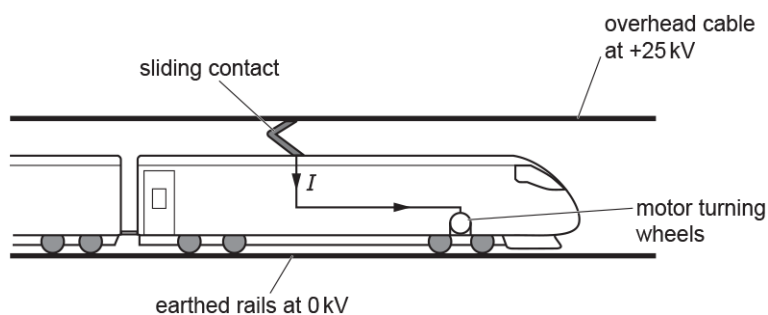

Fig. 1
51. Fig. 1 shows a high-speed electric train.
The overhead cable in **Fig. 1** must be tensioned.